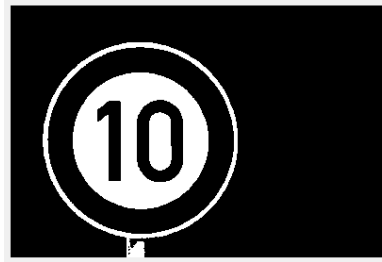
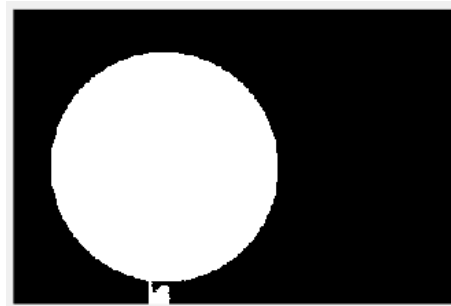

Figure 14: Binarized image of a speed limit sign
Figure 15: Opened, filled speed limit sign image
1. Convert the image to grayscale and binarize it. Your image will be converted to black and white, as shown in Figure 14 below.
3. Fill in any connected areas of dark pixels that are entirely enclosed by connected areas of bright pixels by using the “imfill” function. The opened, filled version of the speed limit sign in Figure 14 is shown below in Figure 15.